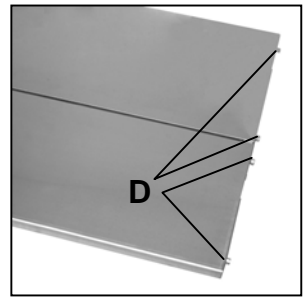
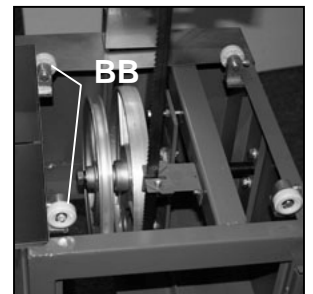

Figure 3
Figure 15
Before attempting to remove or replace the blade, the stainless steel table must be removed. To do this, remove the socket screws which attach the Table Support (D) to the table. Then, from the left side of the table, pull the table back and off. Once removed, place the table on a flat surface away from the machine to prevent damage while working with the blade. (Figure 3)
Remove the four socket screws from the table support as described on Page 7 (Figure 3). Then, from the left front side of the machine, hold the table in both hands and guide it up onto the two table guide wheels (BB) on that side. The wheels should fit the rails which are already attached to the underside of the table. Guide the table across the top of the machine to the guide wheels on the opposite side. Once the table is in place, reattach the table support. (Figure 15)